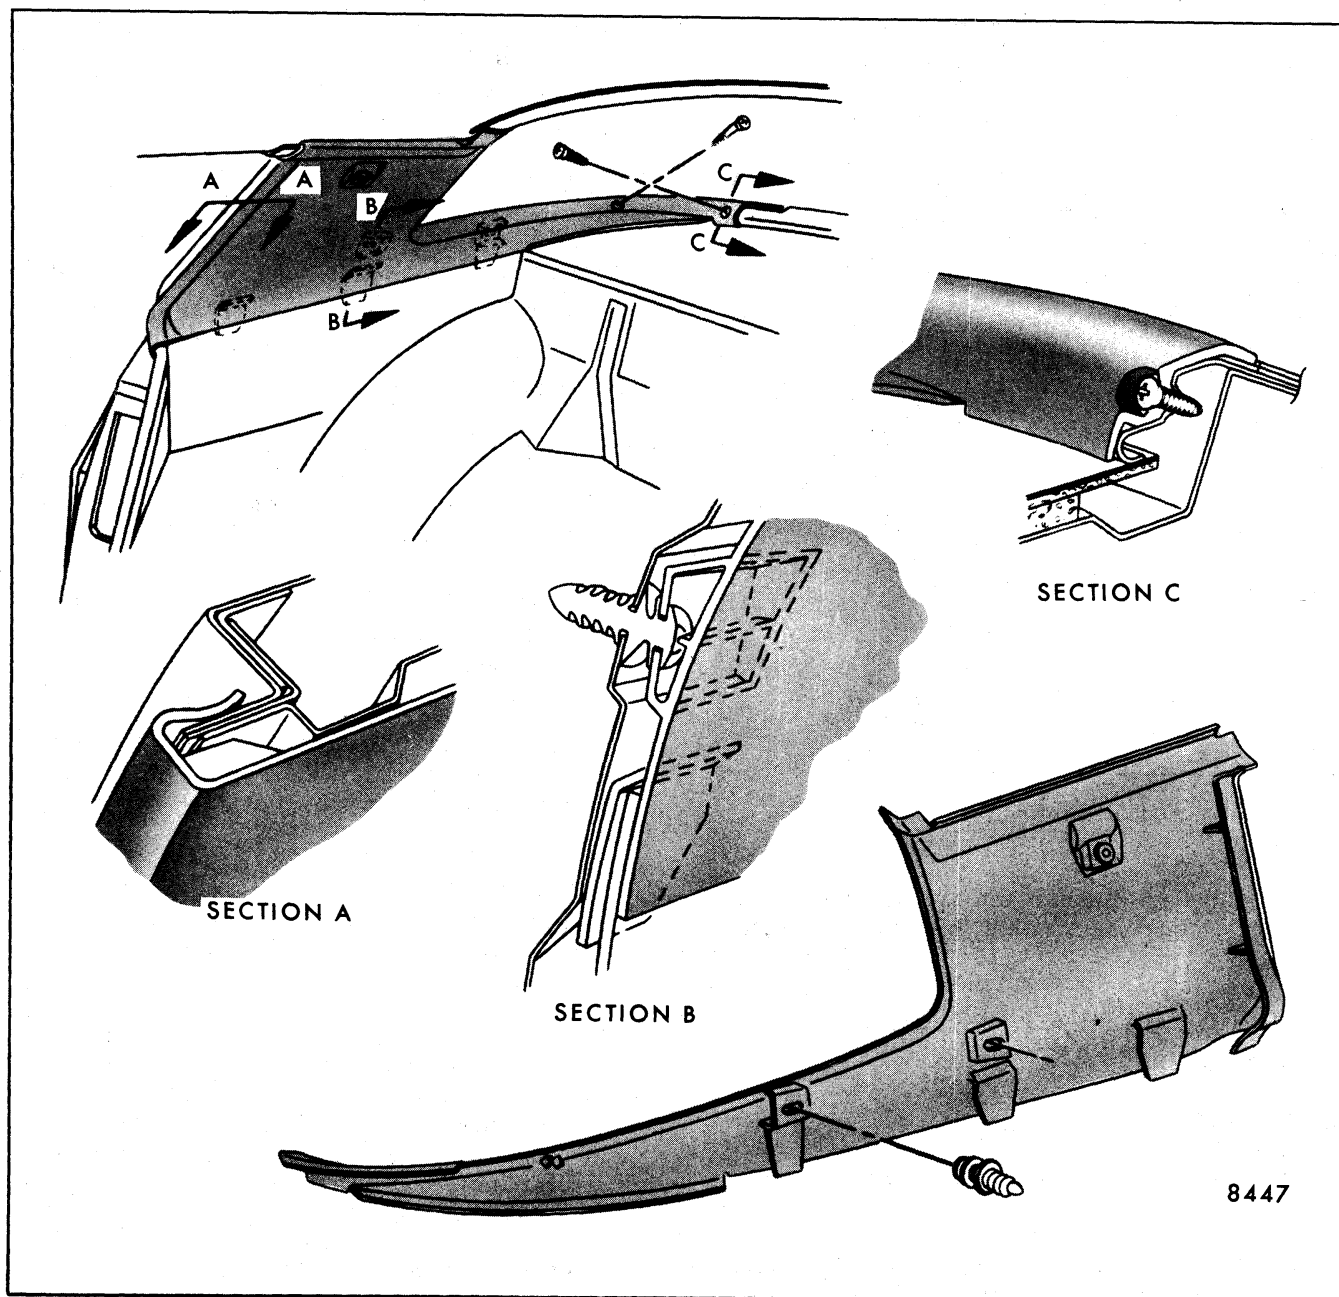

Fig. 6-6-Rear Quarter Trim Attachment - "F" Styles
- a. On "F" styles, disengage plastic clips (Section "B", Fig. 6-6) and remove attaching screws from rear of trim panel (Section "C", Fig. 6-6).